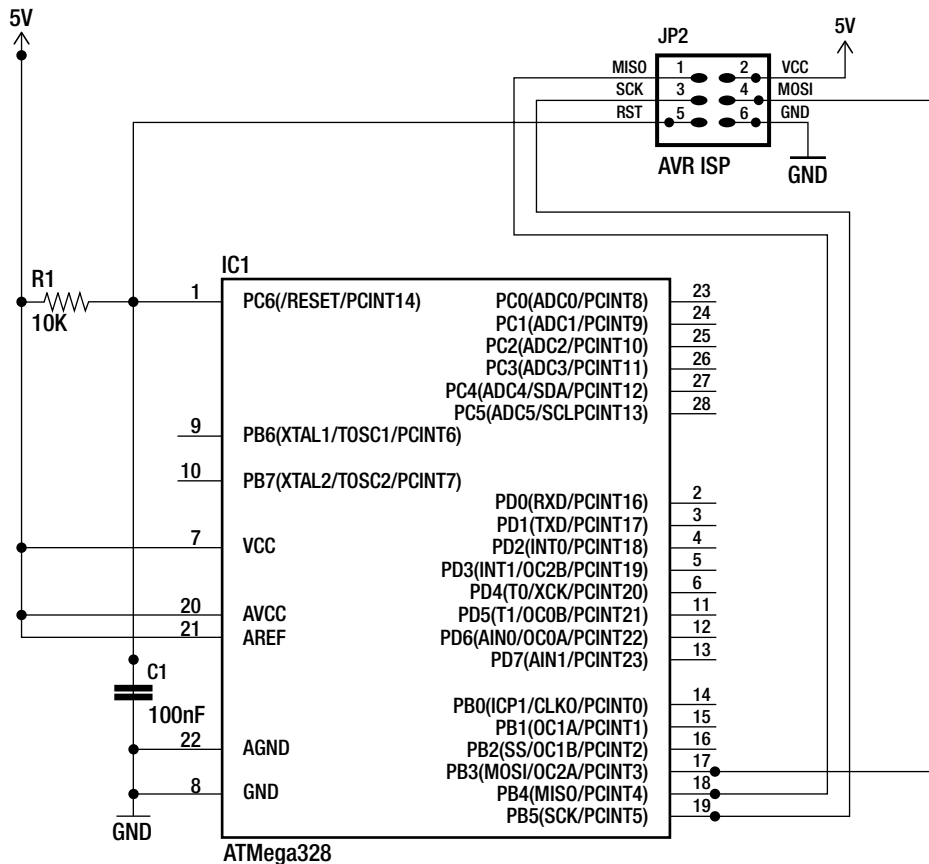

Figure 2-27. Test bed: permanent connections to AVR breakout
- Finally, you need to connect the breakout board to the microcontroller chip using some breadboard jumpers that you will leave always connected. The jumpers need to implement the connections shown back in Figure 2-9. As you can see, the idea is to wire the ISP signals to the chip pins which have the same names. That's what we do in the next diagram—Figure 2-27.
Figure 2-27 uses the AVR's native pin names, not their Arduino names: we'll investigate the difference between native and Arduino pin names in the next chapter. Notice that we need R1 and C1 to ensure that the reset is properly asserted at power on.
Figure 2-27 shows a photo of the completed breadboard setup: from the breakout board, permanent jumper wires connect to the AVR chip. These permanent jumper wires are cut to size and striped using a Sharpie pen. This is intended to make it easy to differentiate them from the temporary per-project wires we shall attach. The resistor and capacitor permanently connected to pin 1 of the chip form the reset circuit.